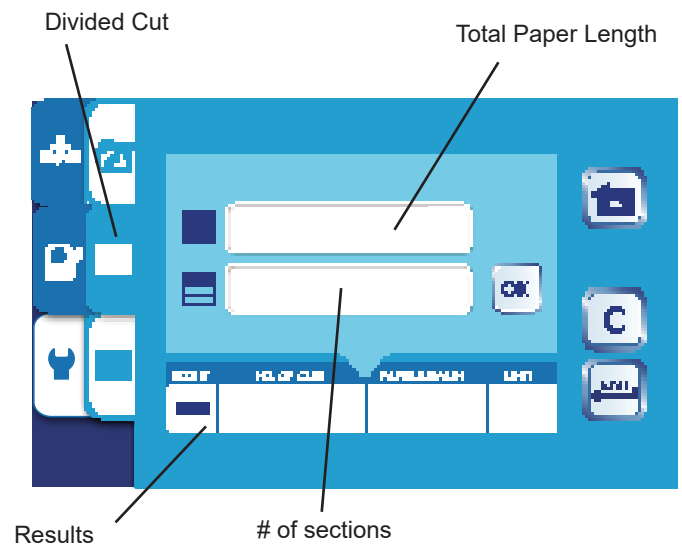

Fig. 8
If all cuts on a sheet are the same length (i.e. no border or full bleed and no gutter between cuts), simply program a Divided Cut (Fig. 8).
2. Press the divide cut tab  to access the divided cut program screen (Fig. 8).
2. Press the advanced divided cut tab  to access the advanced divided cut program screen (Fig. 8).